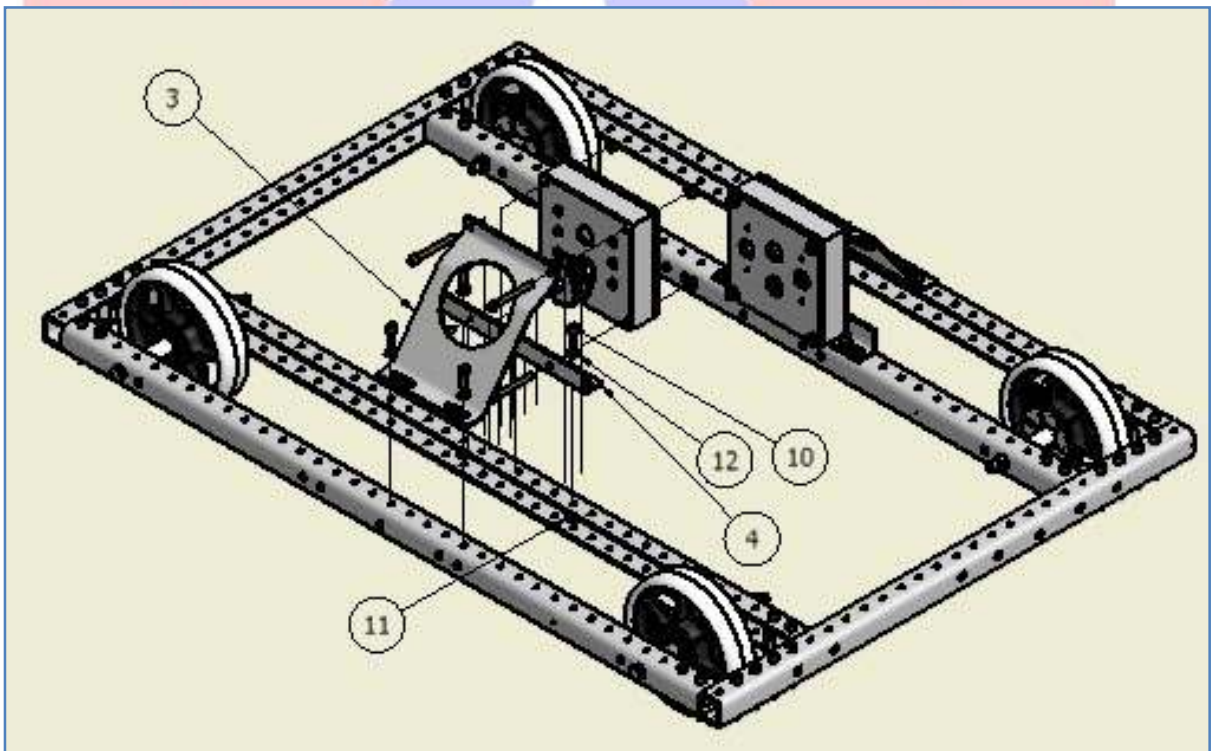

Figure 6: Attach Toughbox, Toughbox Brace and Bracket to Drive-base
- 1. With the Toughbox positioned as in the figure 6, remove the two top screws.**
- 5. Using four (4) 1/4" – 20 x 5/8" SHCS screws, four (4) 1/4" washers, and four (4) 1/4" - 20 nylock nuts, attach the brace and bracket to the drive base.**